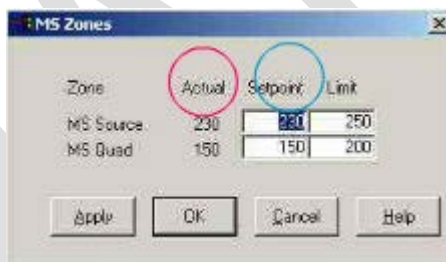

Fig.5
- D. Turn on the PC and double click . When the MS temperature message show up (Fig.5).